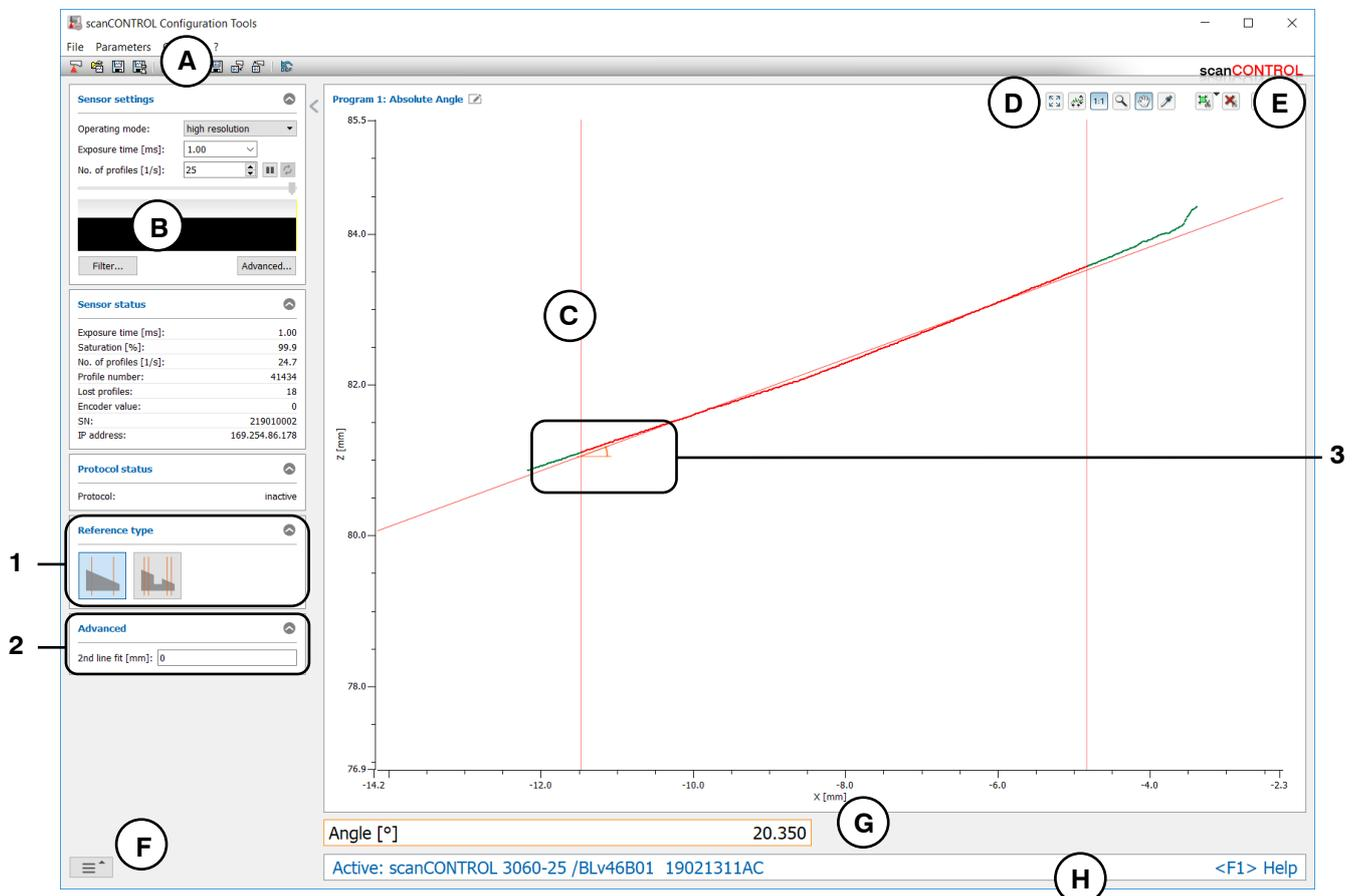

Fig. 4.7: "Absolute Angle" measuring program
- Select the type of line fitting (see Fig. 4.7 and Chapter 3.13.1):